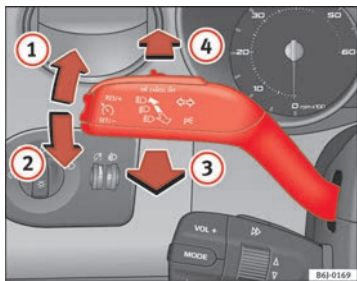

Fig. 56 Indicator and main beam headlight lever
- Move the lever all the way up ⇒ fig. 56 ① to indicate **right**, and all the way down ② to indicate **left**.
- Press the lever forward ⇒ fig. 56 ④ to switch on the main beams.